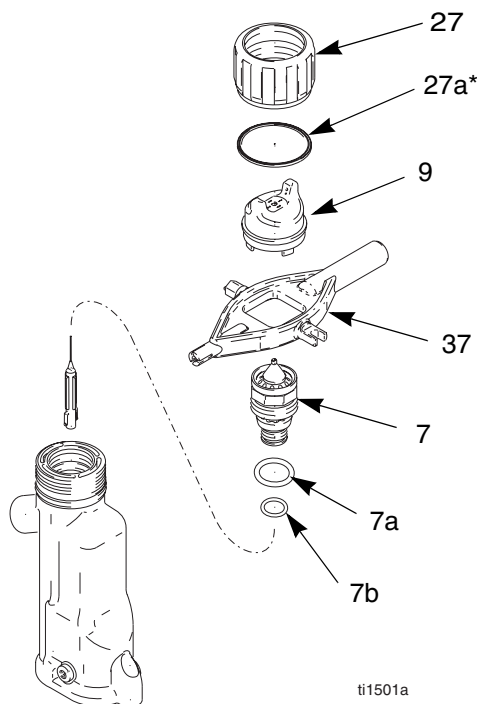

Fig. 9. Air Cap/Nozzle Replacement
2. Remove the retaining ring (27) and air cap (9). See FIG. 9..
3. Point gun up and squeeze trigger while removing the fluid nozzle (7) assembly with the multi-tool (37).